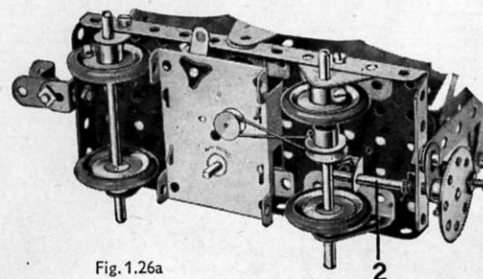

Fig. 1.26a
Each of the Bolts (1) is lock-nutted. A piece of Cord is fastened to the Rod (2) (Fig. 1.26a) wrapped round it two or three times, and then is taken through the hole in the Flanged Plate above the Rod and secured to the Angle Bracket (3). By turning the Bush Wheel the container is tipped sideways.